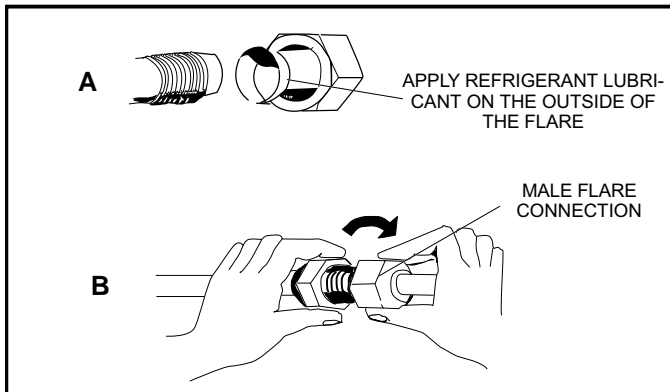

Figure 8. Making Connections at Indoor Unit (Male to Female Connection)
- 6 - Apply recommended HFC-410A refrigerant lubricant to the outside of the field-provided flared line sets (figure 8 -- A).
- 7 - Align the union tube and flared refrigerant lines with each other, then tighten the flare nuts lightly at first to obtain a smooth match (figure 8 -- B).